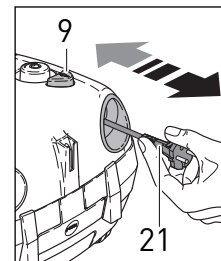
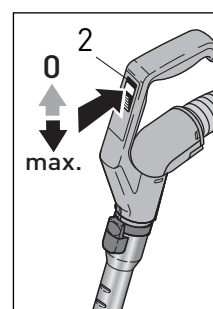

Figure 1
Figure 10
## Starting The Machine - Figures 1, 2 & 3
1. With the canister main power control knob (10) in the OFF position, grasp the plug and pull the power cord (21) out from the power cable recess (figure 1). The power cord (21) should be unwound from the cable reel at least two thirds of its length. **Note:** Do not over-extend the cord.
3. Press the main power knob on the base of the canister (10) gently with your foot or hand. A blue light will illuminate indicating that the power is on.
## Operating the Machine - Figures 1, 4, 5, 6, 7 & 8
**To retract the cord,** switch the vacuum off, unplug it from the outlet, then push the power cable rewind button (9, figure 1) and the mechanism will automatically rewind. Before rewinding the cable, always switch off and unplug the vacuum. Hold the plug while rewinding the cord onto the cord reel. Avoid letting the plug whip while rewinding.
## Starting The E3 Premium and Suction Control - Figures 1, 2, 9 & 10
1. With the canister main power control knob (10) in the OFF position, and the power control slider on the handle (2, figure 10) in the OFF position, pull the power cord out from the base of the canister (figure 1). The power cord should be unwound from the cable reel at least two thirds of its length.
4. Slide the Power Control Slider (2, figure 10) toward the MAX position. It will move freely between 0 suction and MAX suction. Set the slider to the suction desired.
## Operating The E3 Premium - Figures 1, 11 & 12
To retract the cord, switch the vacuum off, unplug it from the outlet, then push the power cable rewind button (9, figure 1) and the mechanism will automatically rewind. Before rewinding the cable, always switch off and unplug the vacuum. Hold the plug while rewinding the cord onto the cord reel. Avoid letting the plug whip while rewinding.